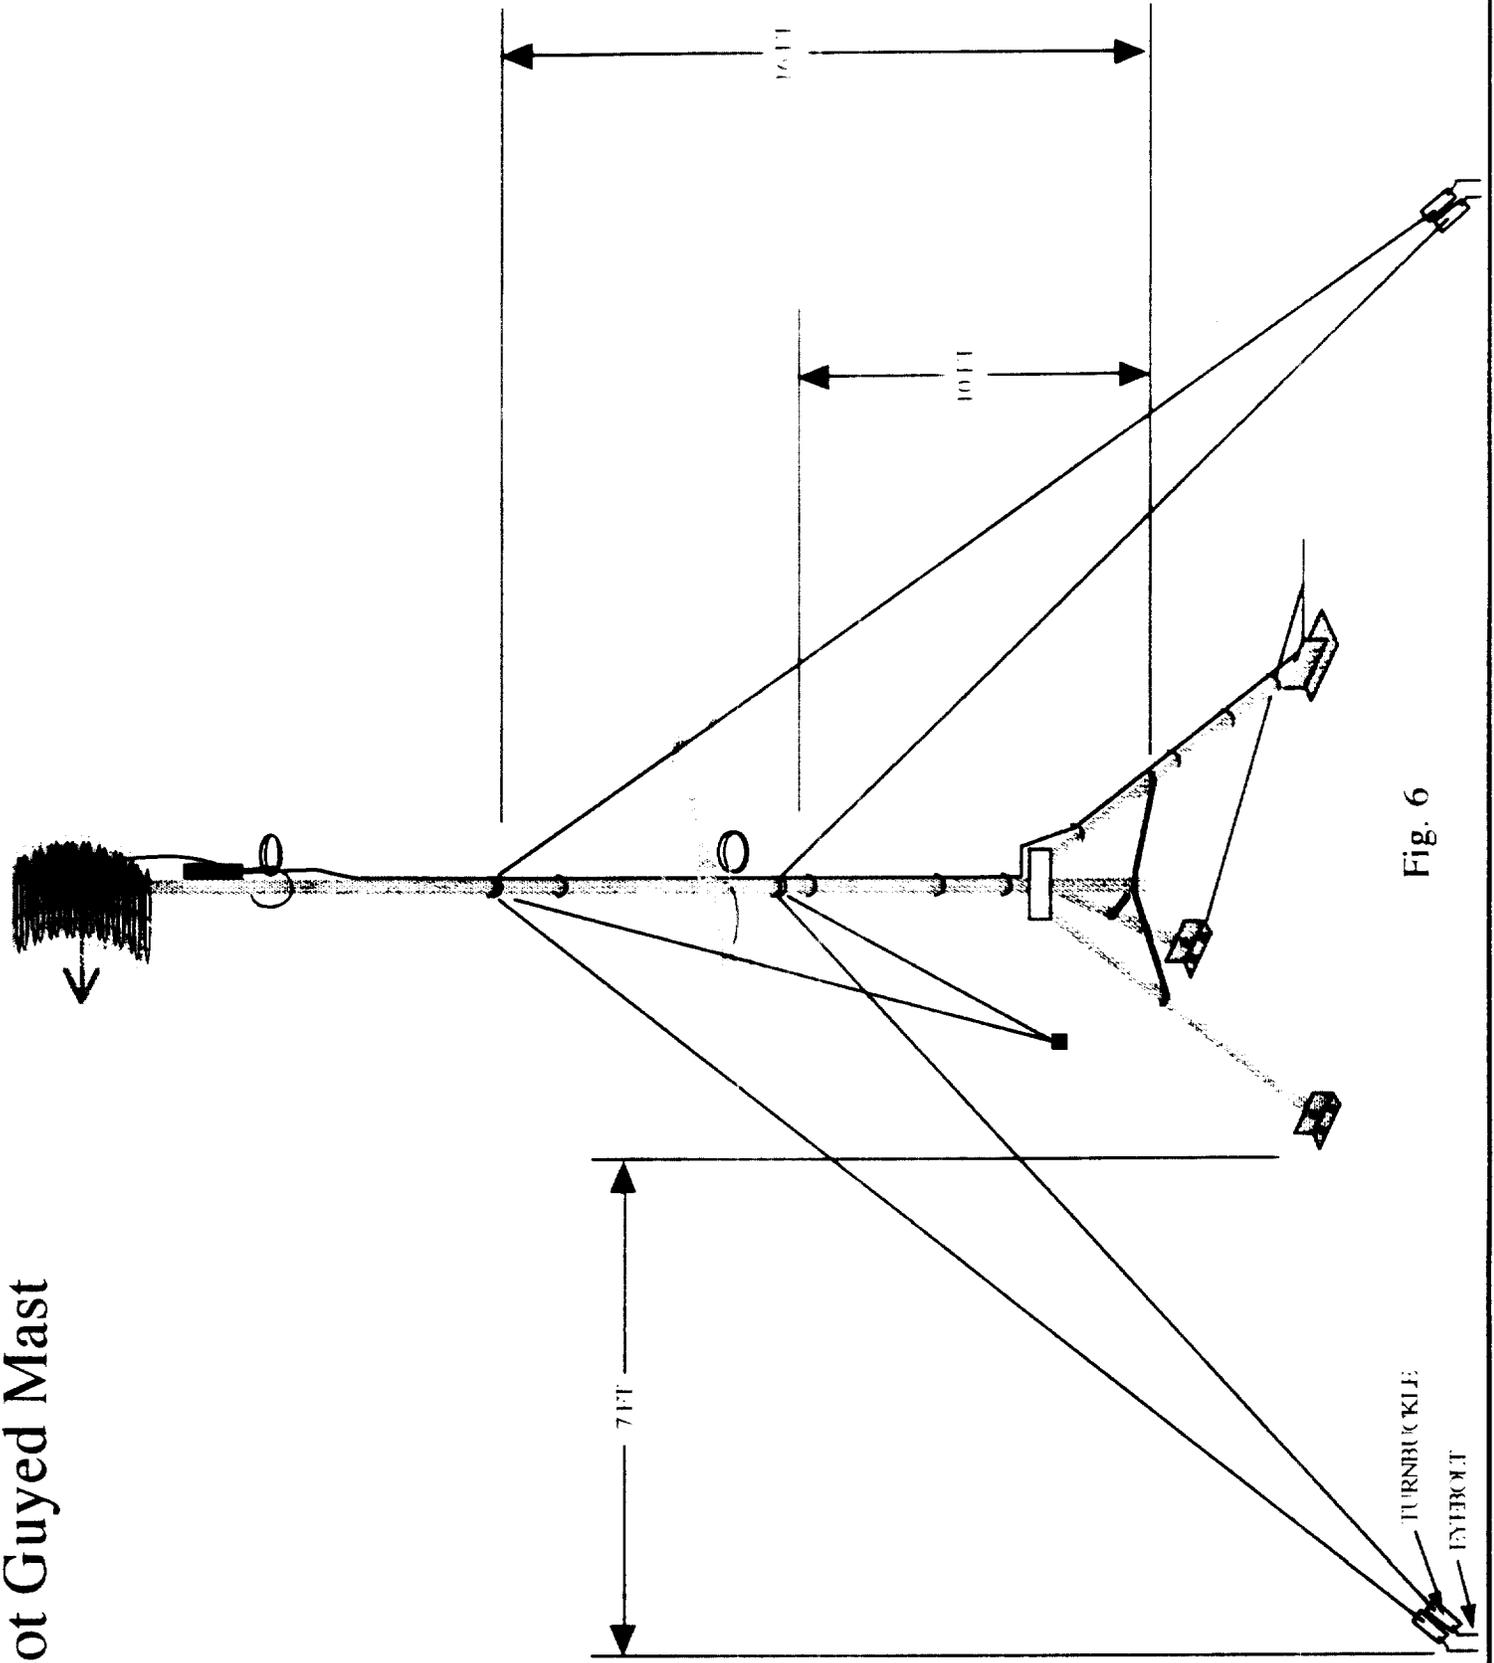

Fig. 6
- A 5 foot tripod is used with a 20 foot mast and requires 2 sets of 3 guy wires each. The first set is placed 6 feet from the top of the mast with a guy ring. The ram hooks are placed a minimum of 14 feet out from the center of the tripod. The mast guy wires are then attached to one end of the turnbuckle. The other end of the turnbuckle is attached to the ram hook. (See Figure 6).